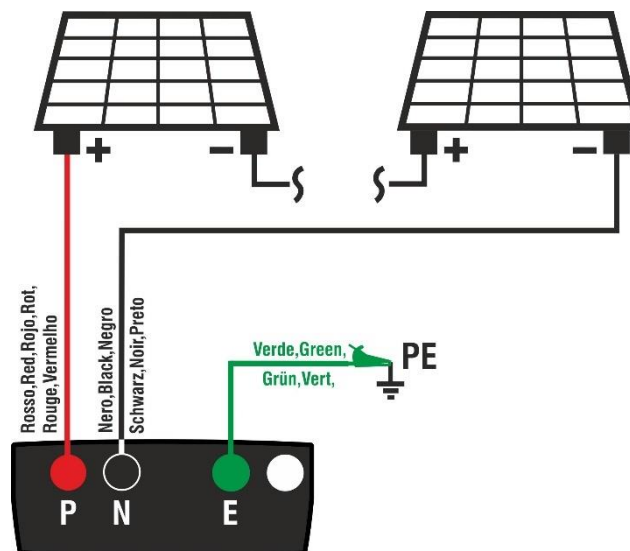

Fig. 4: Instrument connection for DMM Function
2. Connect the instrument to the PV string to be tested as shown in Fig. 4.